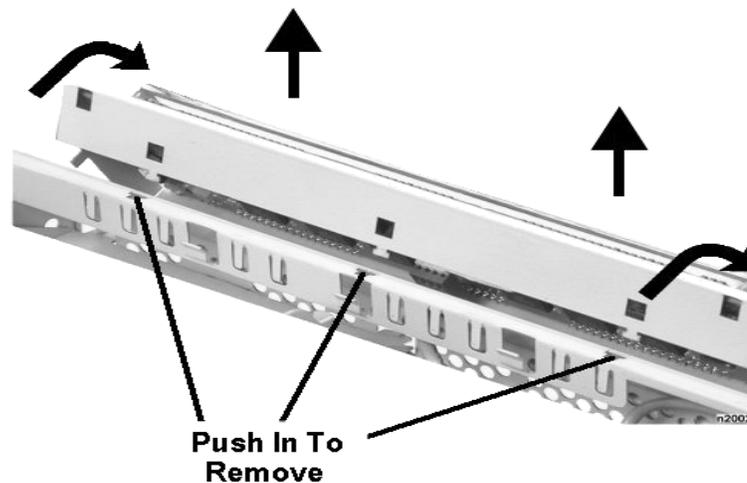

Figure 3-17: Removing the Customer Display Bracket
6. To remove the Customer Display bracket from the chassis, refer to Figure 3-17. Push on the bracket at the points indicated to release it from the chassis. Rotate the bracket away from the chassis, then lift up slightly.